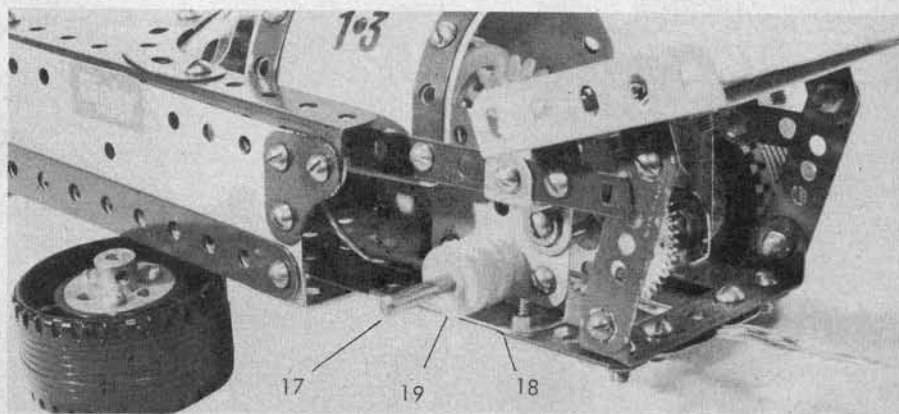

Fig. 4 Close-up of rear axle mounting showing stand-off spacing pulleys.
Figs. 4 & 5 show the way in which the gearing is mounted but in order to use the $2\frac{1}{2}$ in. Axle Rod provided in the No. 3 set, one journal plate is set slightly inboard as
follows. A $1\frac{1}{2}$ in. Strips but the one shown in Fig. 4 has its lower flange pointing outboard. A second $1\frac{1}{2}$ in. Angle Girder is mounted on the other side of the chassis but its lower flange points inboard. In each case a $1\frac{1}{2}$ in. Square Plate is bolted vertically to the slotted
bracket fixed to the inner $1\frac{1}{2}$ in. plate as shown in the various illustrations. Both rear wheels are fixed to the rear axle, a 4 in. Rod, by Grub Screws, but Fig. 4 shows three Plastic Pulleys (19) used as stand-off washers on the rear axle (17) to allow for the inboard setting of the $1\frac{1}{2}$ in. Square Plate. On the far side, only one Plastic Pulley is required to complete the spacing.